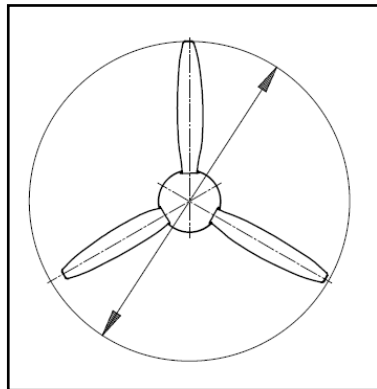

Fig. C-22 Propeller diameter
- 1) Measure radial distances from the center of the propeller to the blade tip of each blade. Diameter of the propeller is twice of longest measured distance (Fig. C-22). Permitted propeller diameter tolerances are in Tab. C-7.